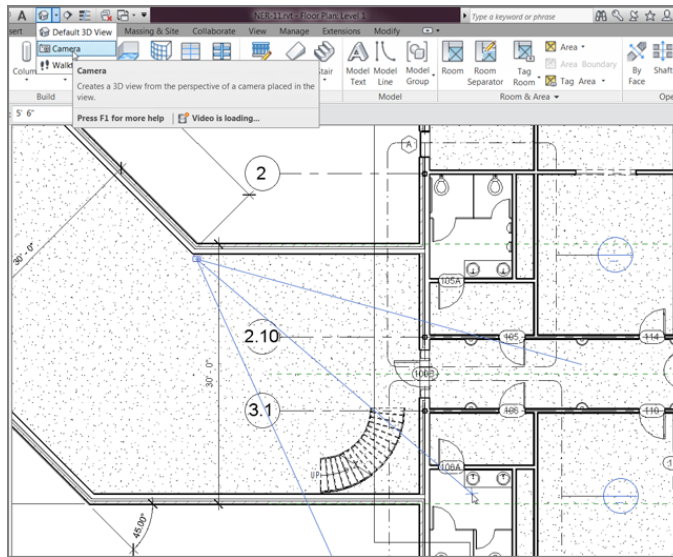

FIGURE 10.45: Adding the perspective view
3. Pick the first point shown in Figure 10.45.
4. Pick the second point shown in Figure 10.45.